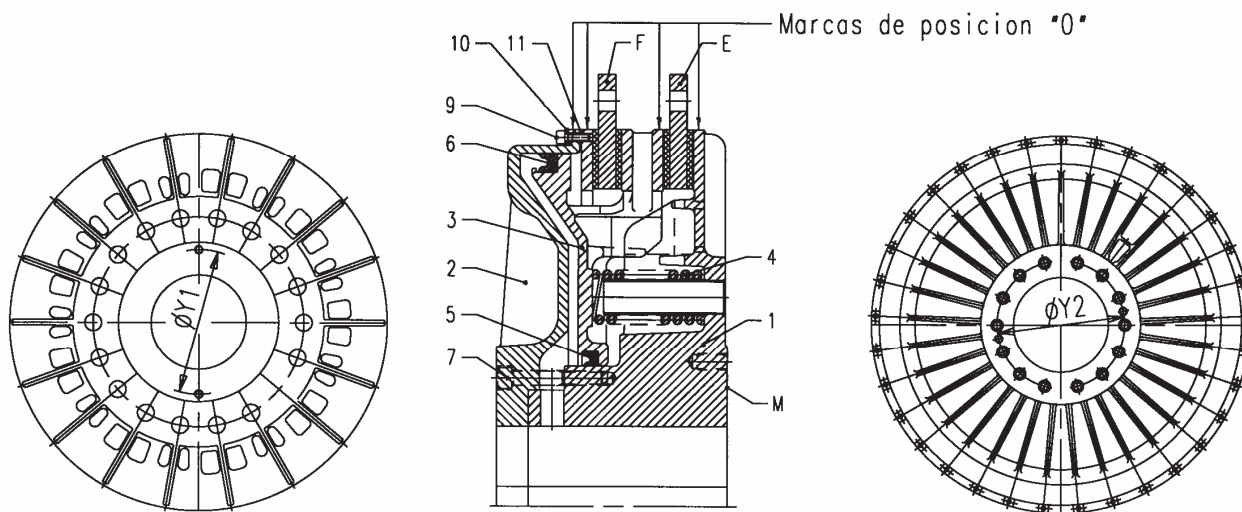

Fig. 13
1. Disassemble the brake (F) and clutch (E) discs (Fig. 13) as explained in **Chapter 4.3**.
2. Remove the clutch-brake from the shaft, by using the 2 threaded extraction holes at 180° (Table 8). In sizes 19/25/37 for removing the clutch-brake from the brake side, loosen 2 bolts (7) and use the threaded holes as extraction hole.
3. Put the clutch-brake on face M (Fig. 13) of the clutch side cover (1).
4. Both covers are tightened with bolts (7). There is an expansion force due to resorts (4). This expansion force persists, having loosen the bolts (7).